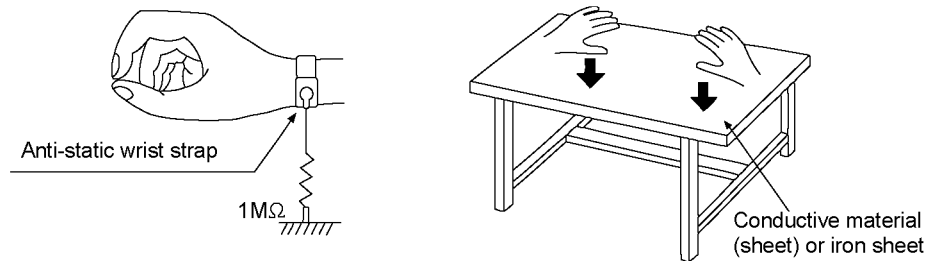

Figure 2-2
- Use the anti-static wrist strap to discharge the static electricity from your body Figure 2-2.